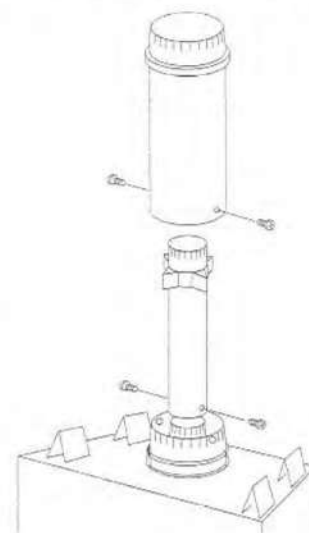

Figure 16
B. The vent sections are crimped at one end to provide slip fit elbows. Slide the 4" (102 mm) inner section onto the center appliance collar, bottoming out at the circular bead. (Crimped end always upward.) An elbow may also be attached to the appliance collar. Secure in the same manner as you would a flue section. Locate and transfer drill a 1/8" (3 mm) diameter hole through the collar at the two (2) punched holes (180° apart). Use No. 8 x 1/2" sheet metal screws to secure each section. Apply high temperature sealant to joint, being sure of a 100% seal. (Sealant such as DS-HTS or RTV silicone adhesive - 600°F.) (*Figure 16*)